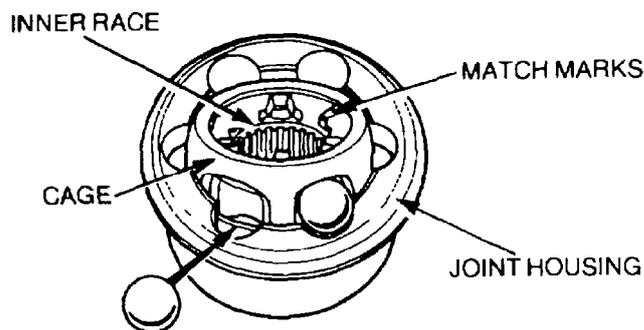

Figure 261 Constant Velocity Joint Steel Ball Removal
- c. To remove the balls, tilt and swivel the cage and the inner race (Figure 261).
- Align the match marks made on the joint inner and outer race and the cage and tilt and swivel the cage to allow the steel balls to be inserted (Figure 261).